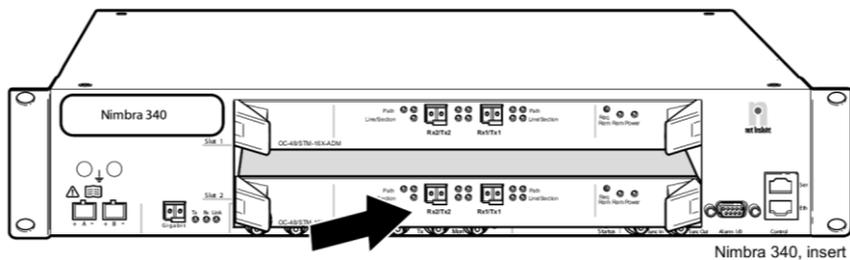

Figure 29. Inserting the module
2. Grab the module by the handles and insert the module in the guides of the node chassis, see Figure 29. Make sure to keep the module vertical, otherwise the module might stick at the upper or lower end of the module.